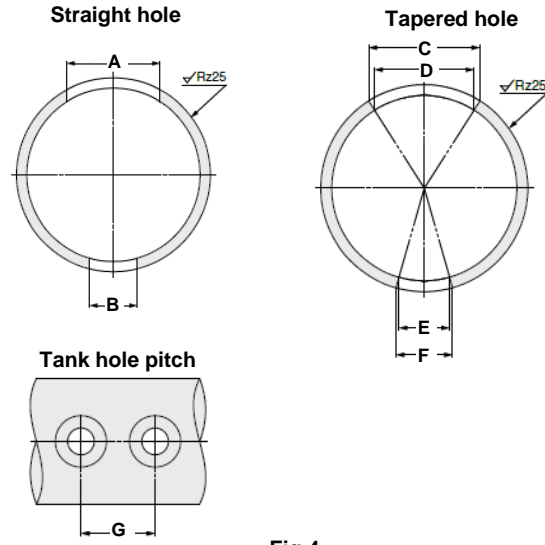

Fig.4
- It is recommended that the tank be constructed from ANSI sch40 pipe (or pipe of equivalent strength). If a custom tank is to be fabricated suitably rated material should be used. For recommended tank hole dimensions and spacing, see Fig.4.